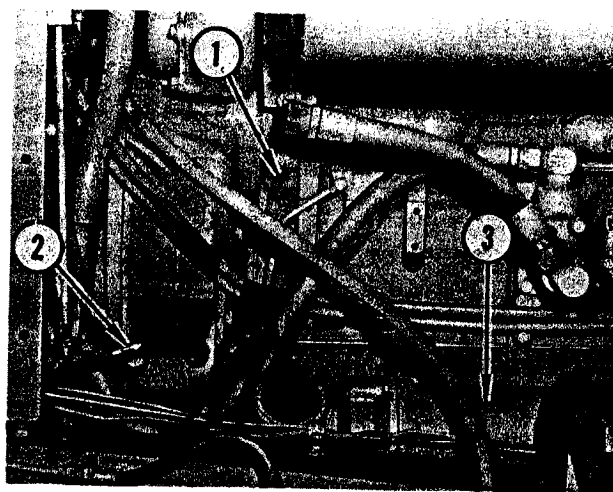

FIGURE 8. OIL LINE DISCONNECTS
Refer to Figure 8. Remove hose connecting oil gallery fitting (1) and copper tube (2). This copper tube goes to oil pressure gauge on instrument panel. Remove water hose from front and rear of converter oil cooler (3).